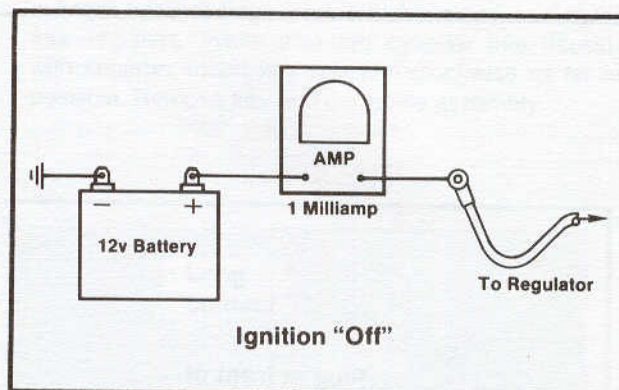

Figure 8-12. Test Rectifier/regulator
See Figure 8-12. Turn ignition switch OFF and connect an ammeter capable of reading milliamps between the regulator wire and the battery positive terminal.
1. Connect load tester negative and positive leads to battery terminals and place load tester induction pickup over rectifier/regulator cable as shown in Figure 8-12.